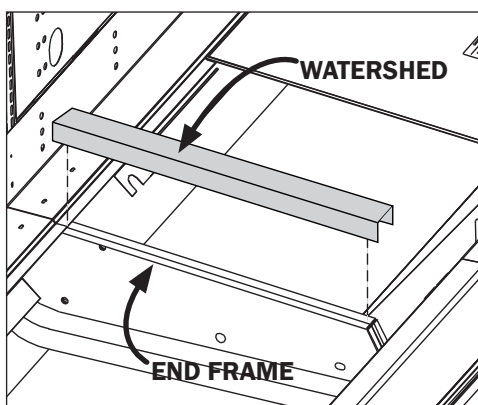

Fig. 8 Sealing the pipe chase
6. Apply case-to-case watershed (supplied) over the end frame seam (Fig. 8). The watershed prevents water from settling in the case joint.